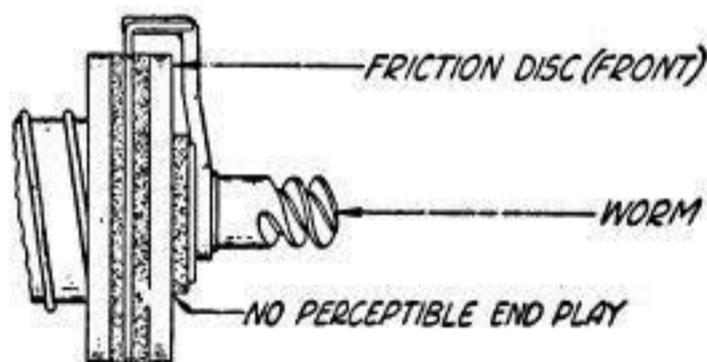

Fig. 10
(1) To adjust, position the rear section of the counting shaft by means of the four screws which hold the counting-shaft bearing caps. **Fig. 10**